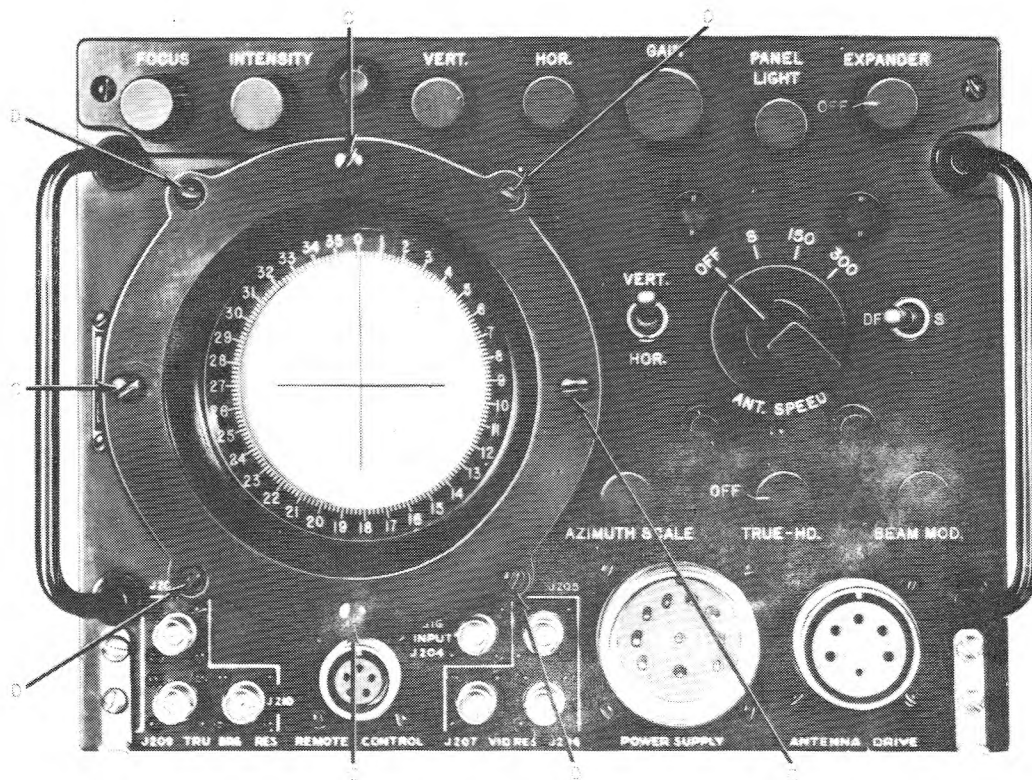

Figure 6-3. Azimuth Indicator IP-243/ALA-6, Control Panel
Step 1. Referring to figure 6-3, remove plate in front of bezel by removing screws "C".
Step 3. Remove bezel by removing screws "D" (figure 6-3). Bezel will now slip away from the pilot lamp mounting projection "M", and come away from the front of the panel.